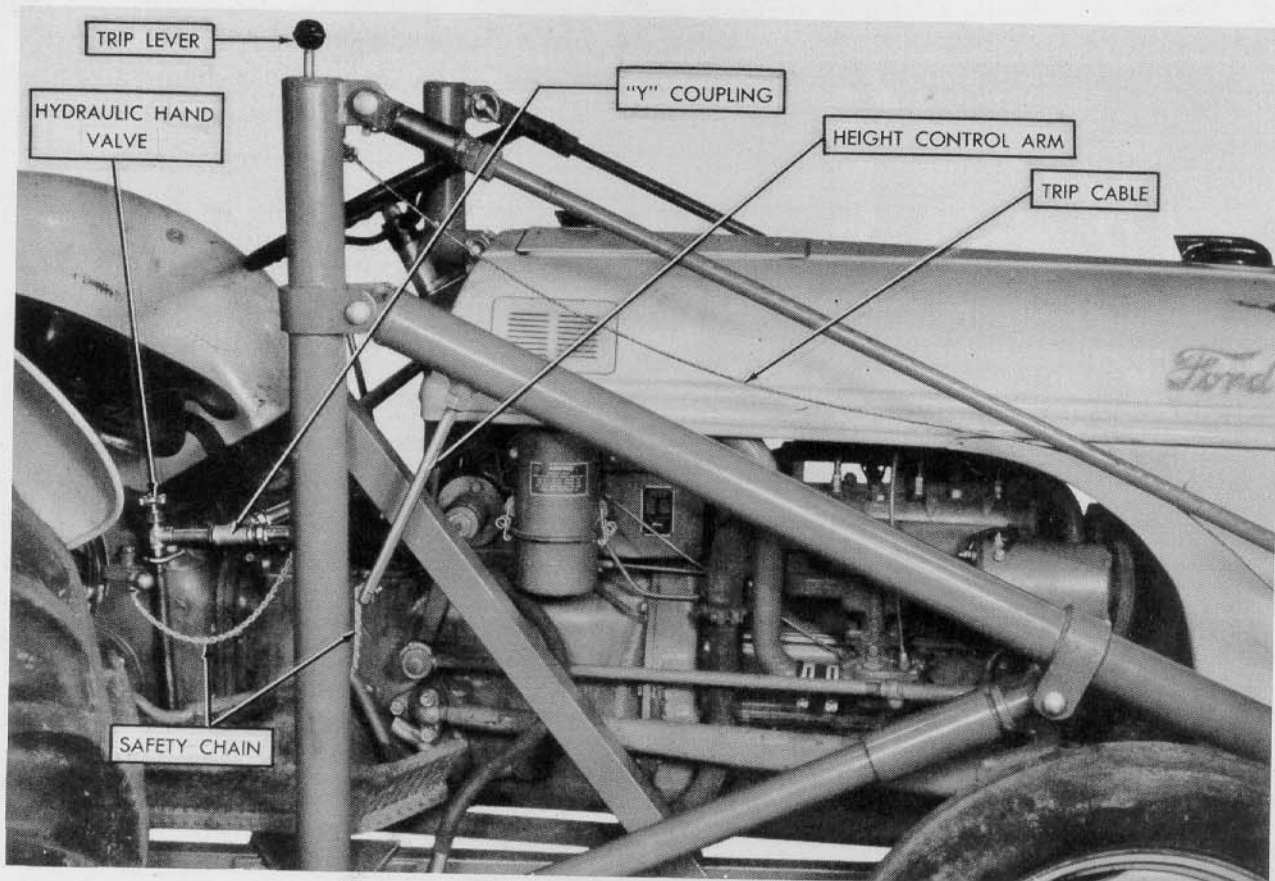

Figure 18
18. Screw the height control arm into the nut welded on the under side of the right hand loader arm as shown in Figure 18.
19. Attach the height control safety chain to the hydraulic touch control lever with the clamp provided on the chain. See Figure 18.
22. Push the touch control lever forward slowly to a point just before the bucket starts to lower. Thread the safety chain through the guide loop welded to the right hand loader post and through the hole in the height control arm. Take up slack in the chain and secure to the height control arm with a cotter pin. The function of this chain is to prevent the bucket from being raised above its maximum safe height. See Figure 18.
1. Close the hydraulic hand valve. See Figure 18.
as the "Y" coupling to keep out dust and dirt. See Figure 18.